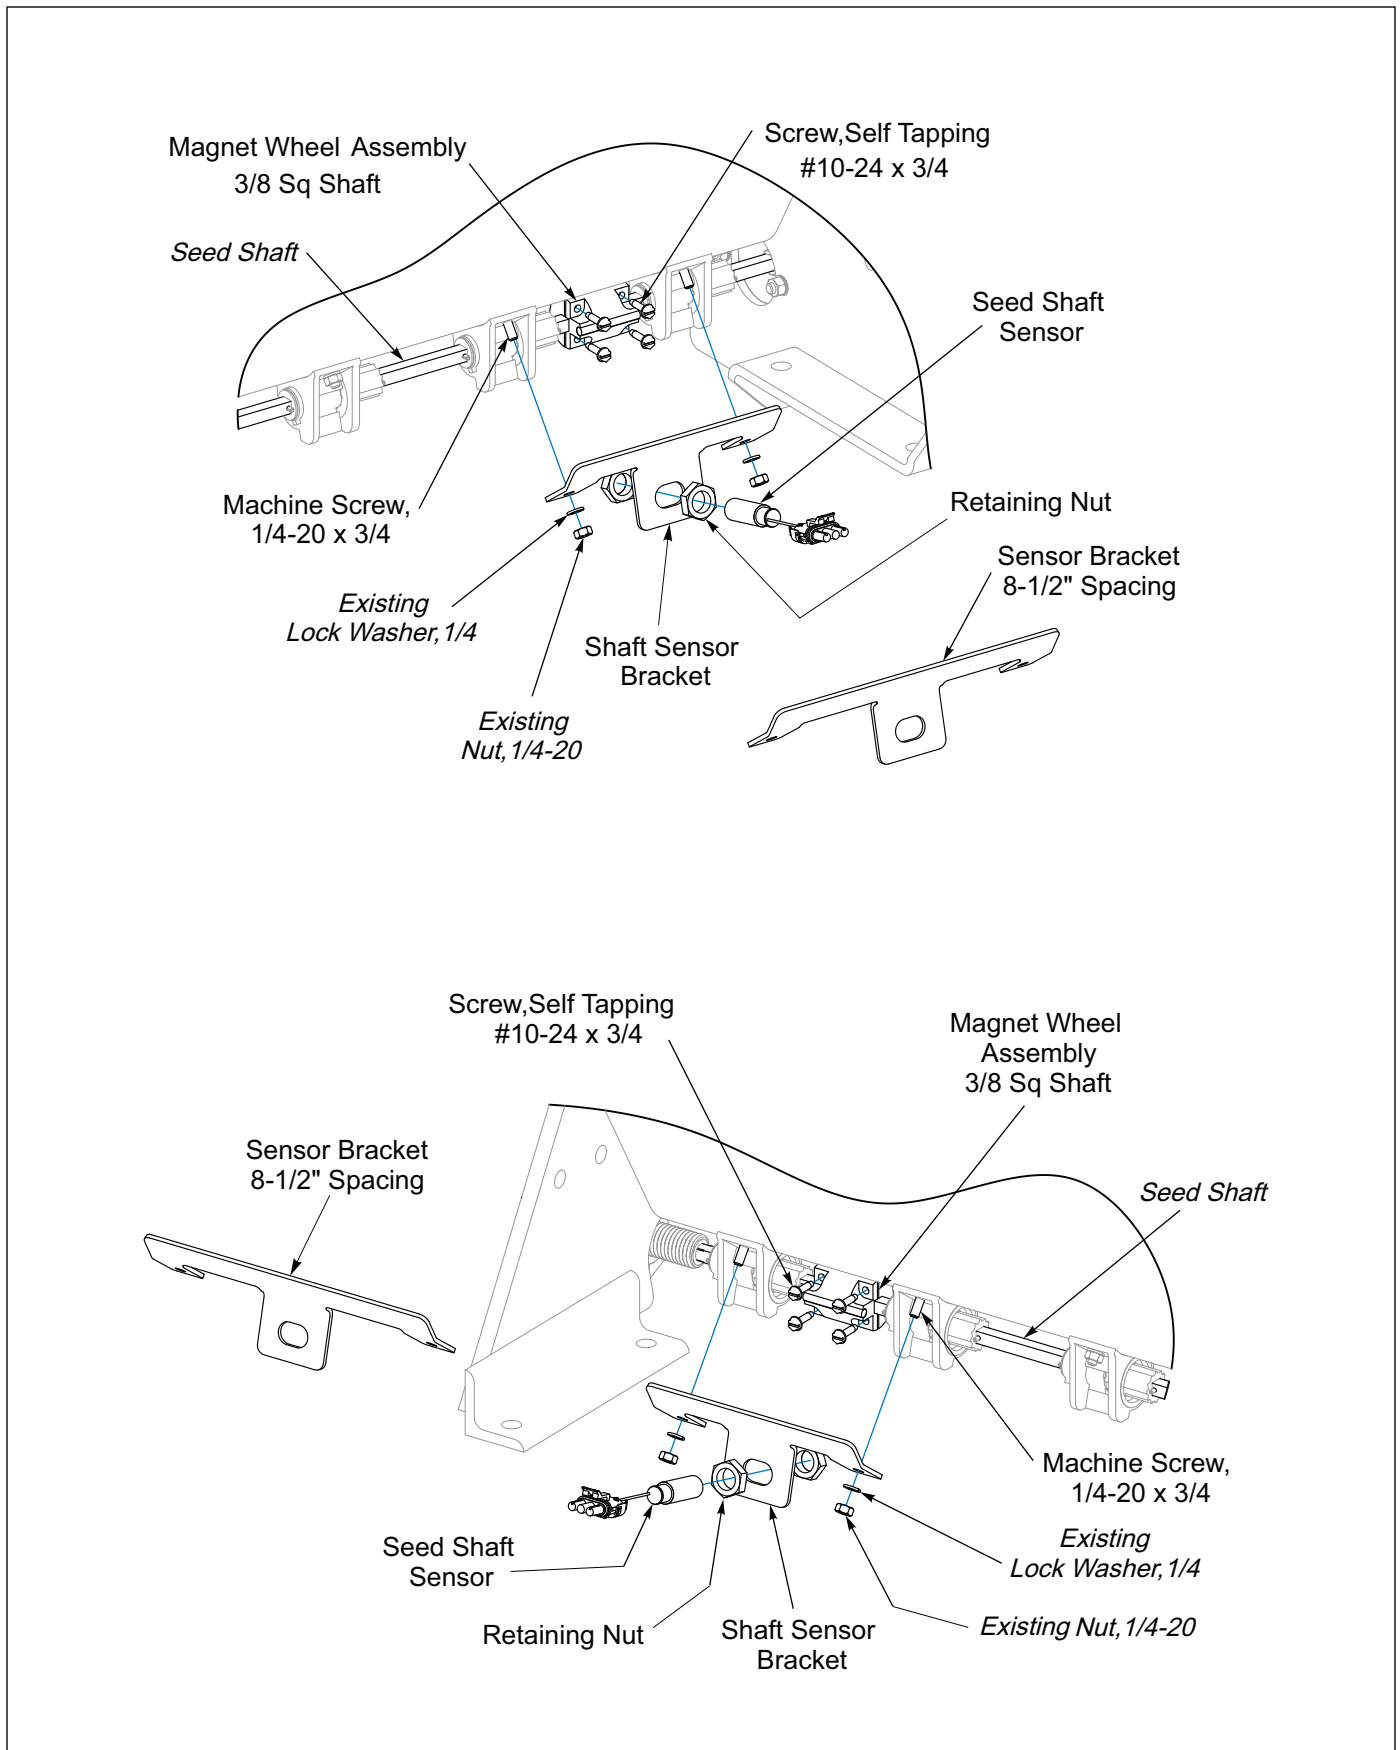

Figure 2-24: Small Box Seed Sensor Brackets
1. Remove the four 10-24 x 3/4 Self Tapping Screws from the Magnet Wheel Assembly. **See Figure 2-24.** Position the rounded half of the Magnet Wheel Assembly on the seed shaft. Ensure it fits squarely onto shaft. Mount magnet half to the rounded half. Ensure it fits squarely onto shaft.